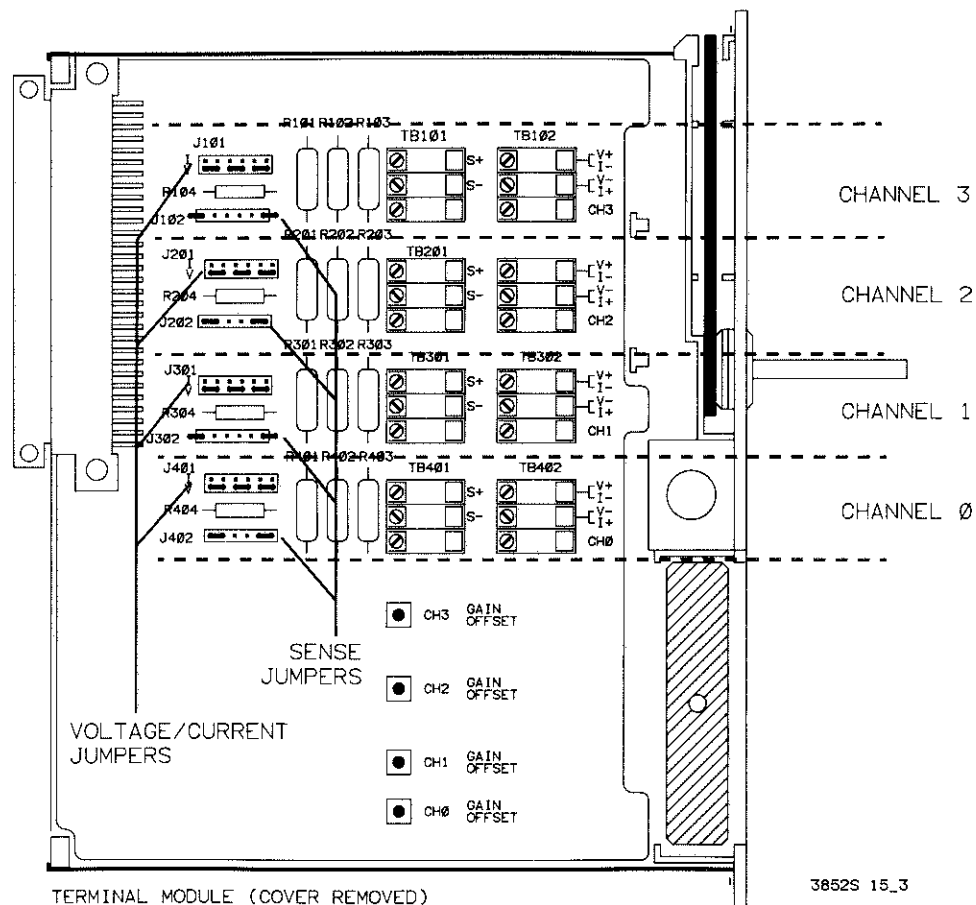

Figure 15-4 Terminal Module Jumpers
- b. Refer to Figure 15-4 and locate the Voltage/Current configuration jumpers and the Sense Jumpers on the test fixture.